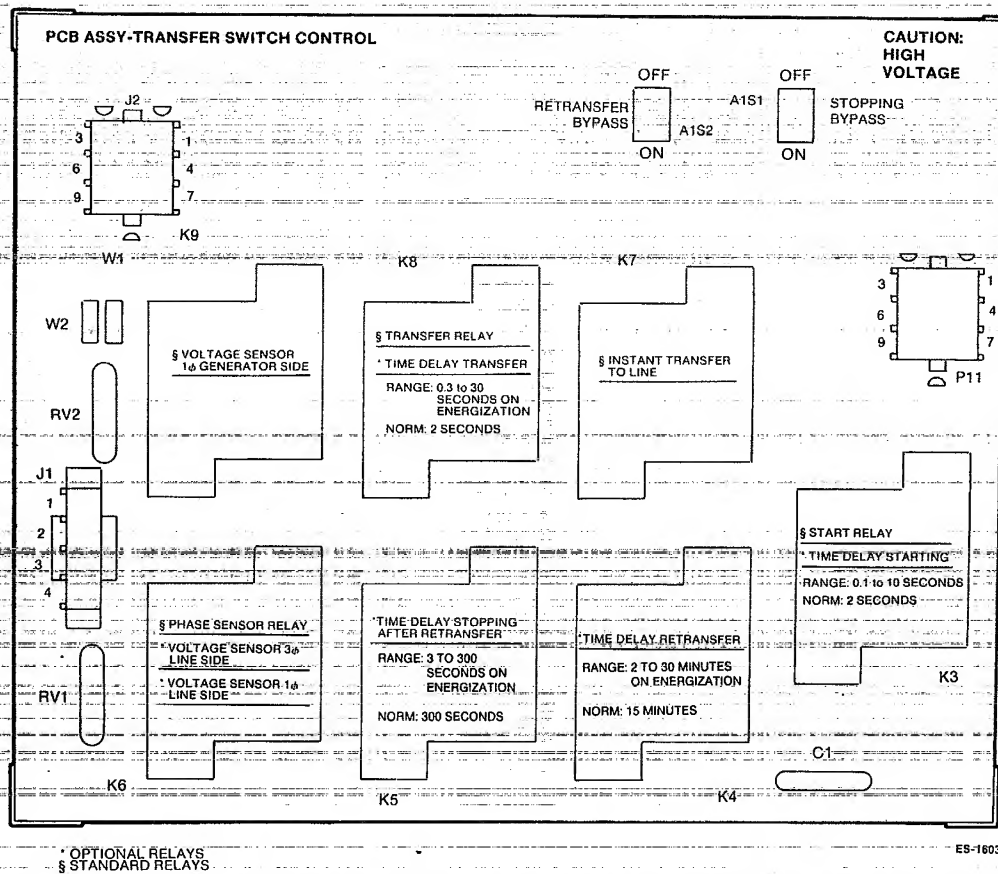

FIGURE 2-4. CONTROLLER PCB ASSEMBLY
- **Controller PC Board Assembly (A1)** - this control board contains the necessary monitoring and time delay relays for automatic operation of the transfer switch (Figure 2-4). The components vary by options ordered. Refer to Model Number System and the following descriptions to identify the control relays specific to your application.